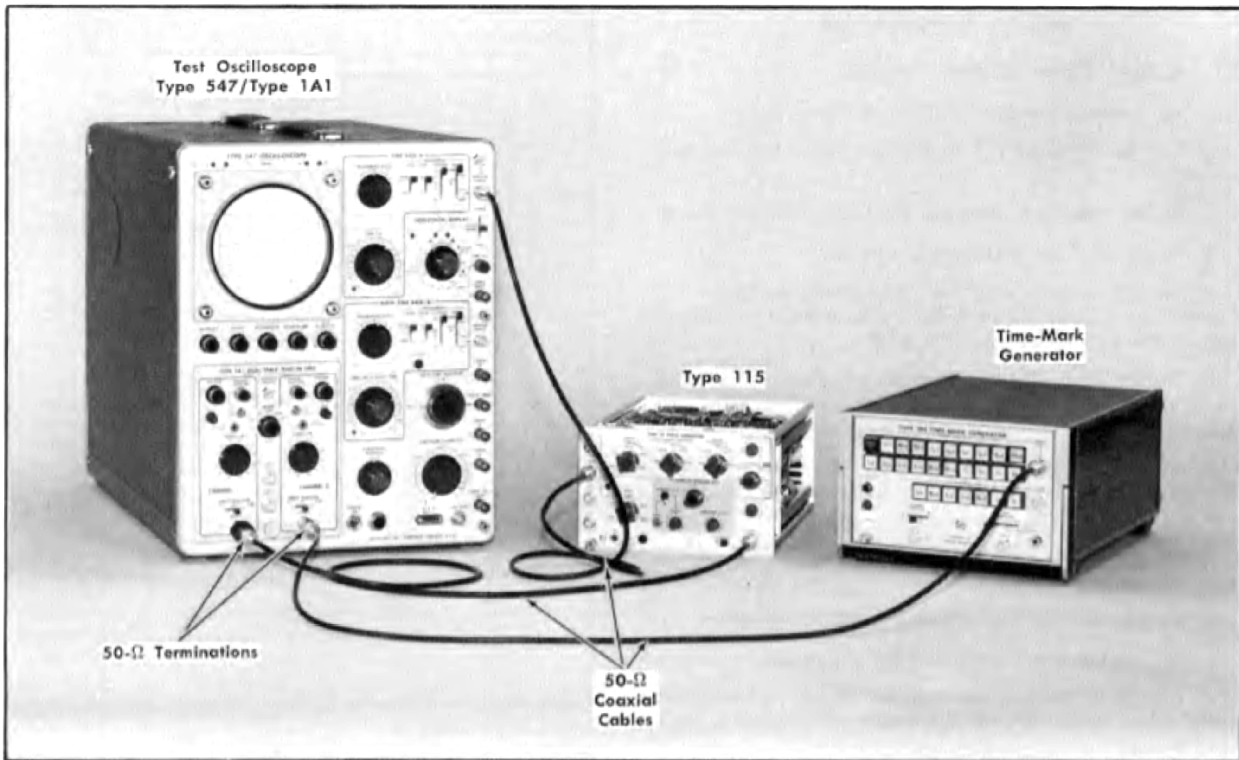

Fig. 5-17. Initial test equipment setup for steps 21 through 26.
- Test equipment setup is shown in Fig. 5-17.